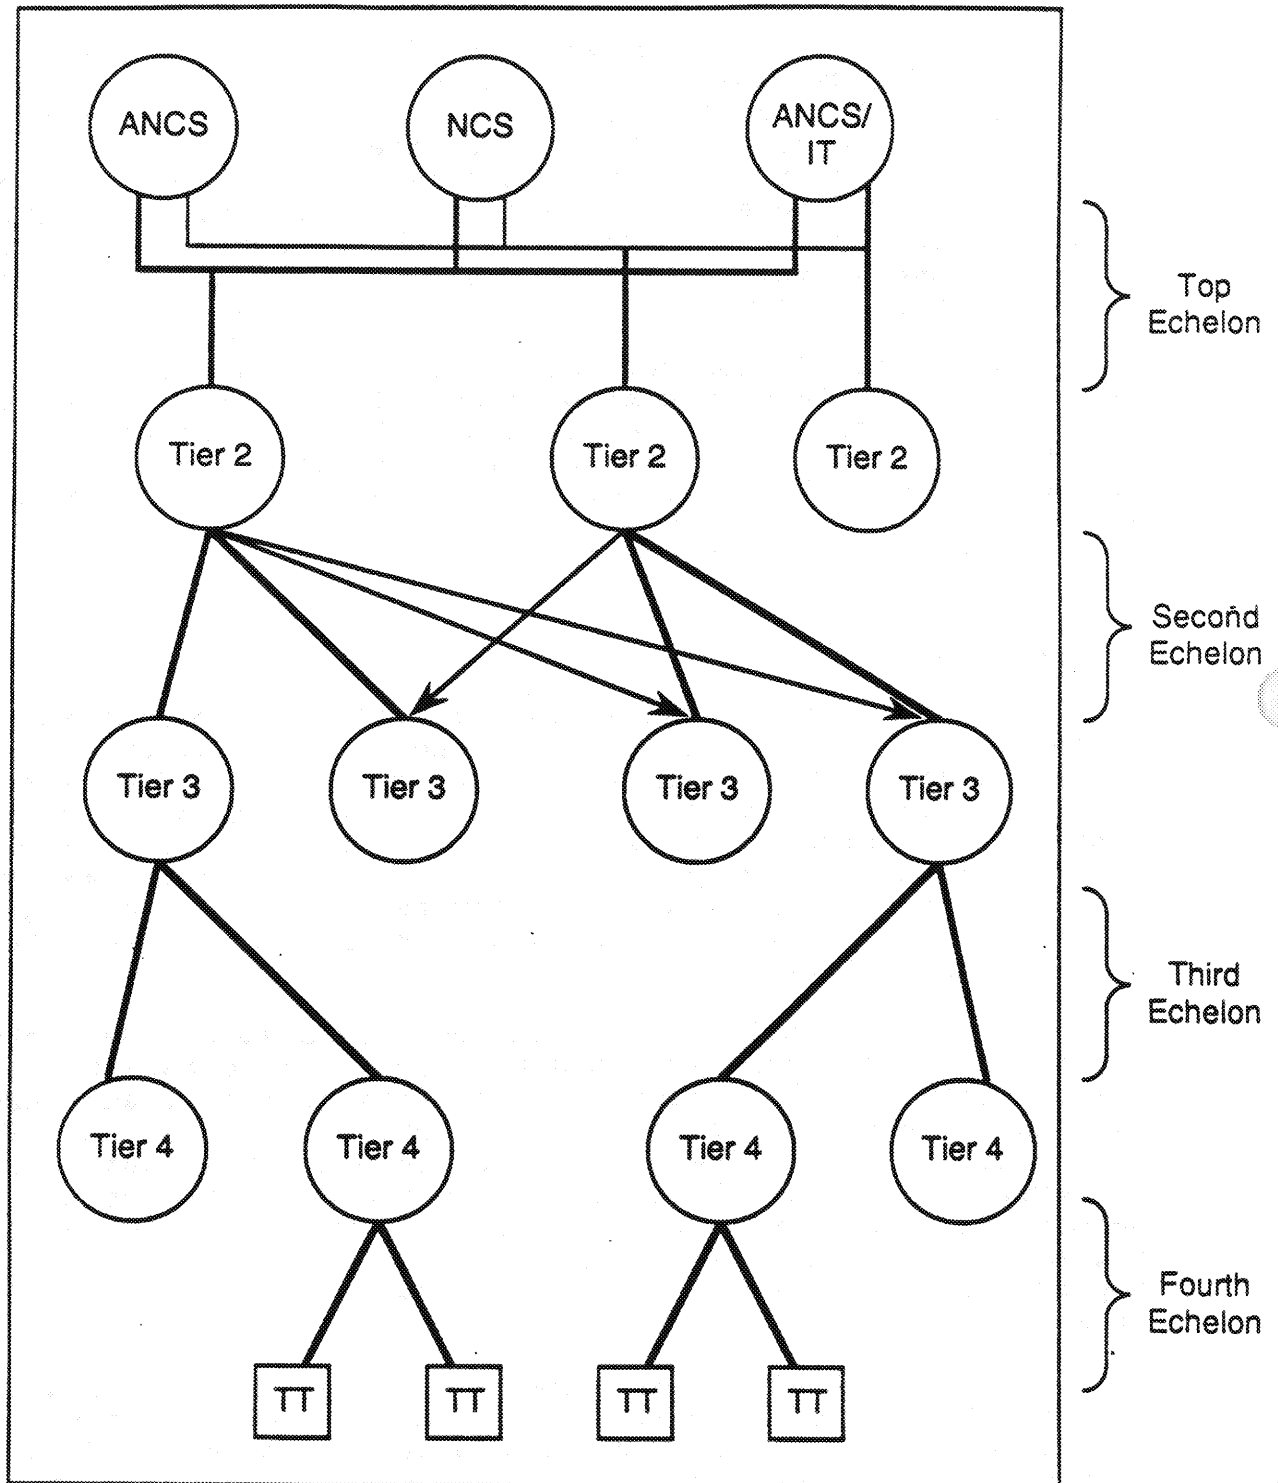

Figure 1-6. RN Network Hierachy
a. Figure 1-6 illustrates the five tier hierarchy structure of a RN communication network. At the top of this structure are the Net Control Station (NCS), its alternates, and the Injection Terminals (IT). Each terminal resides within one of the tiers and is linked to other terminals through subnets. Each subnet functions under the direction of a subnet controller terminal. The controller establishes the subnet channel and grants access to the members through a Time Division Multiple Access (TDMA) protocol.